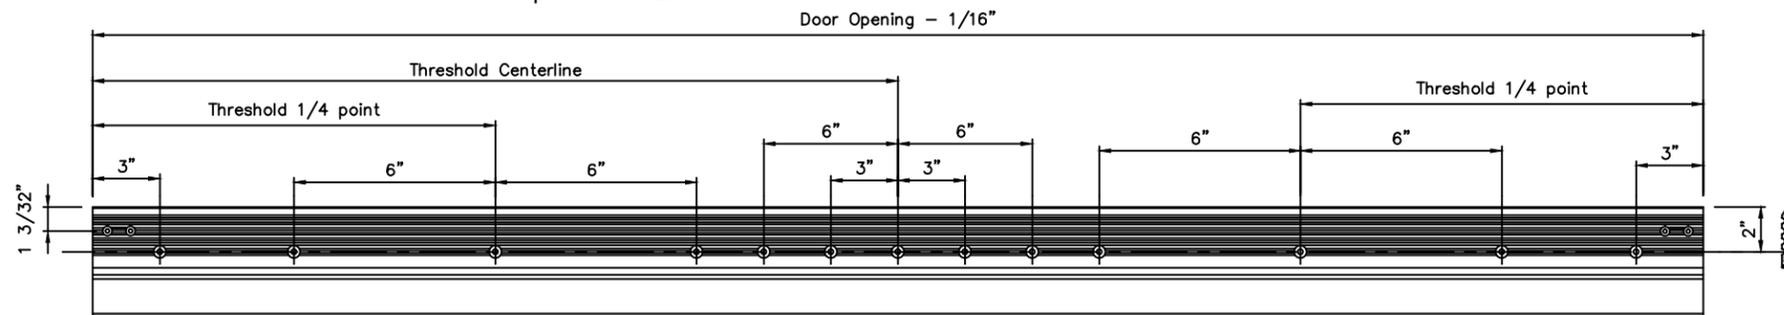

FIGURE 3
Each threshold shall be attached to the frame using a TH-FP-4 clip at each end. The clip will be attached to the door frame using (2) FS-22 (#10-24 x 1/2" PFHMS) and the threshold to the clip also with (2) FS-22 fasteners. The threshold will be anchored to the perimeter using 1/4" flat head fasteners. These will be located per **FIGURE 3**.